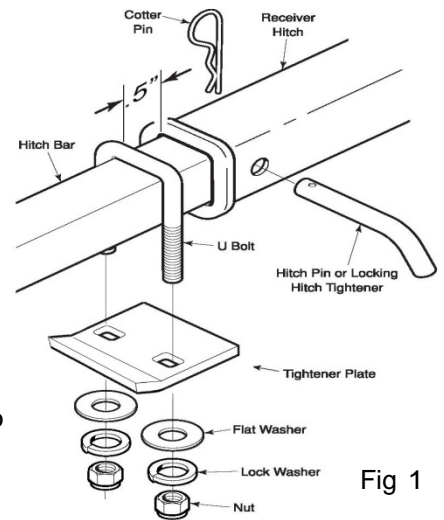

Fig 1
- Place the hitch bar stinger into the vehicle's receiver hitch, aligning hitch pin holes. See Fig 1. Locate the Hitch Pin from the hardware kit and insert it into the hitch. Although the hitch tightener is shown in Fig 1 it is not necessary to install it at this time unless you plan to use the StowAway immediately.